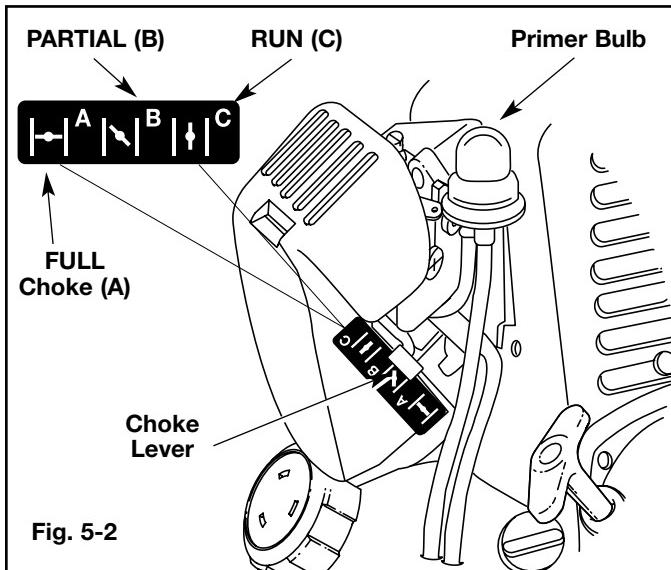

Fig. 5-2
4. Place the choke lever in the **FULL choke (A)** position (Fig. 5-2).
5. Fully press and release the primer bulb slowly 5 to 7 times. Gasoline should be felt and visible in the bulb (Fig. 5-2). If gasoline has not entered the bulb, press three more times, or until it does.
8. Move the choke lever to the **PARTIAL (B)** $\downarrow\lrcorner$ position (Fig. 5-2).
2. Move the choke lever to the **PARTIAL (B)** $\downarrow\lrcorner$ position (Fig. 5-2).